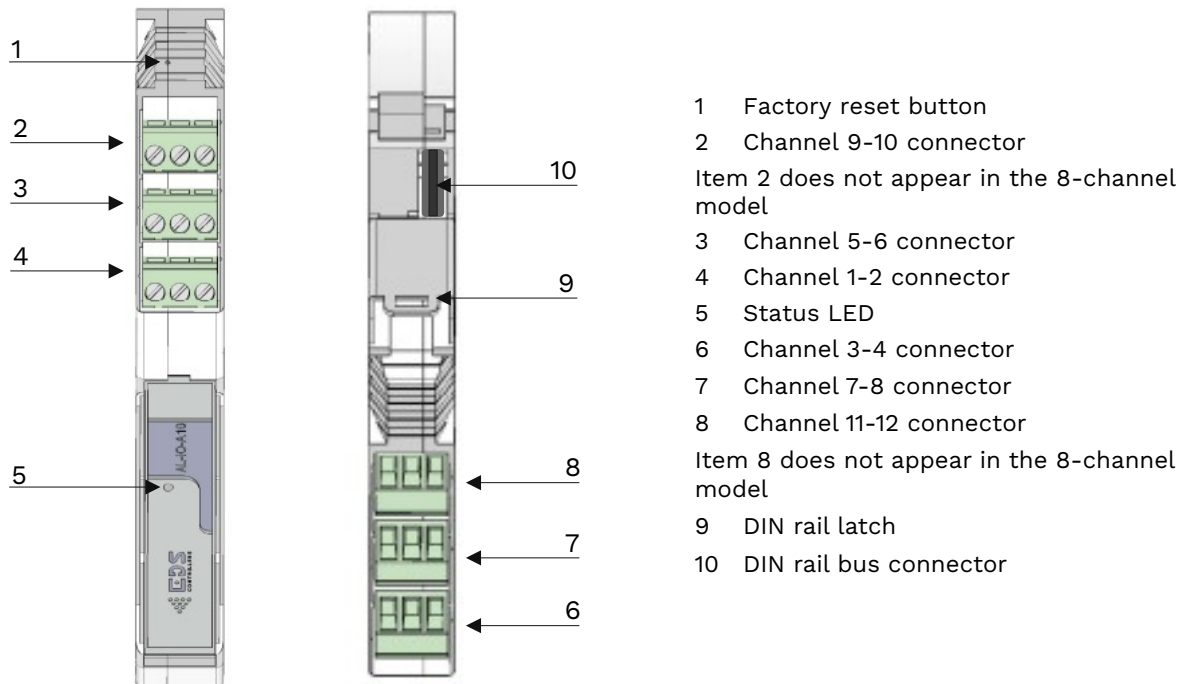

Fig. 3. View of the 12-channel module (left front from the top, right back from the bottom)
In the rear part of the casing there are cut-outs enabling access to the contacts of the communication bus (installed in the DIN rail, see: figure 2 item 15 and figure 3 item 10) - to contact pads on the PCB. The communication bus allows the expansion of the main unit with additional I/O modules, providing their power and data transmission. A single main unit can be extended by up to 10 modules, which allows for a total of 128 measurement inputs and control outputs.
Then we assemble the individual devices of the system, plugging them into the prepared bus connectors. The bus connectors should be plugged into the cutouts visible in the rear of the case (see Figure 2 item 15 and Figure 3 item 10).